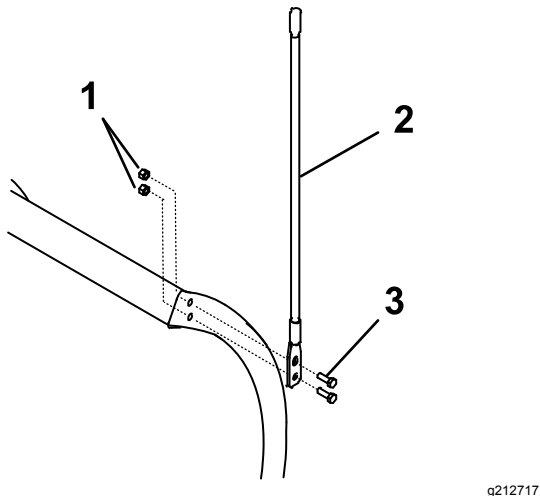

Figure 14
1. Attach the blade guides to the plow blade using 4 bolts (5/16 x 1 inch) and 4 self-locking nuts (Figure 14).